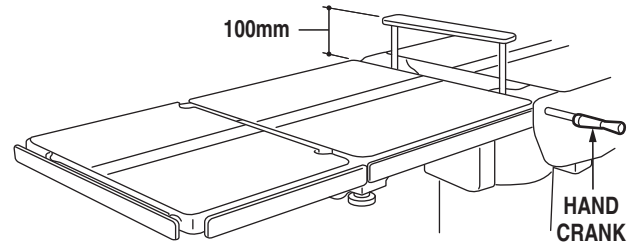

Figure 2-24. Kidney Lift
a. The built-in kidney lift is operated by a manual hand crank system and allows 100mm of lift. See figure 2-24. The hand crank is stored in a bracket under the seat section.